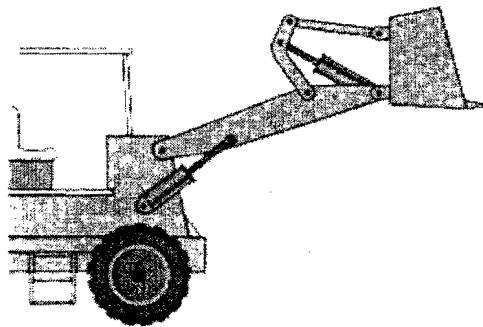

Figure A1
- b) Specify the number of links and the number of joints and calculate the mobility for the mechanism shown in the figure below. Identify the item in Figure A1 below as constrained mechanism, locked mechanism or unconstrained mechanism. [6 marks]